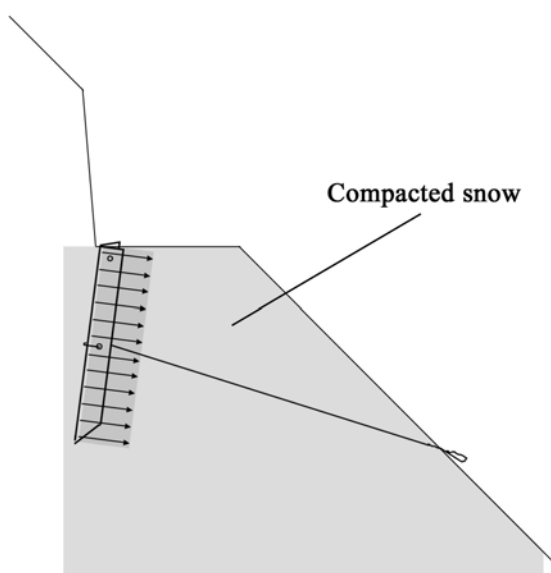

Fig 8.
6. When on a slope, stomp down a step and place the snow stake as illustrated in Fig 8.